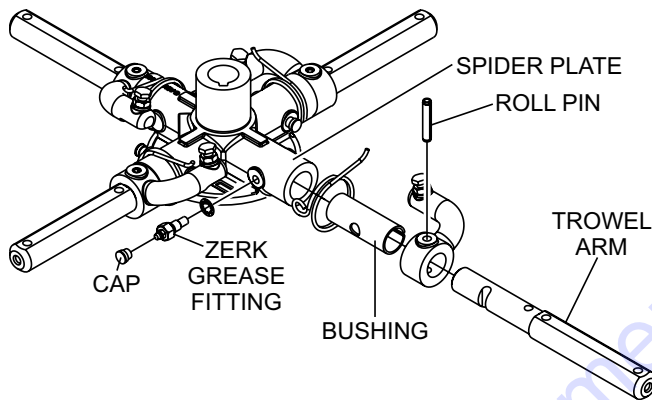

Figure 24. Trowel Arm Removal
1. Each trowel arm is held in place at the spider plate by a hex head bolt (zerk grease fitting) and a roll pin. Remove both the hex head bolt and the roll pin (Figure 24) from the spider plate.
4. Examine the trowel arm bushing insert (Figure 24), clean if necessary. Replace bushing if out of round or worn.